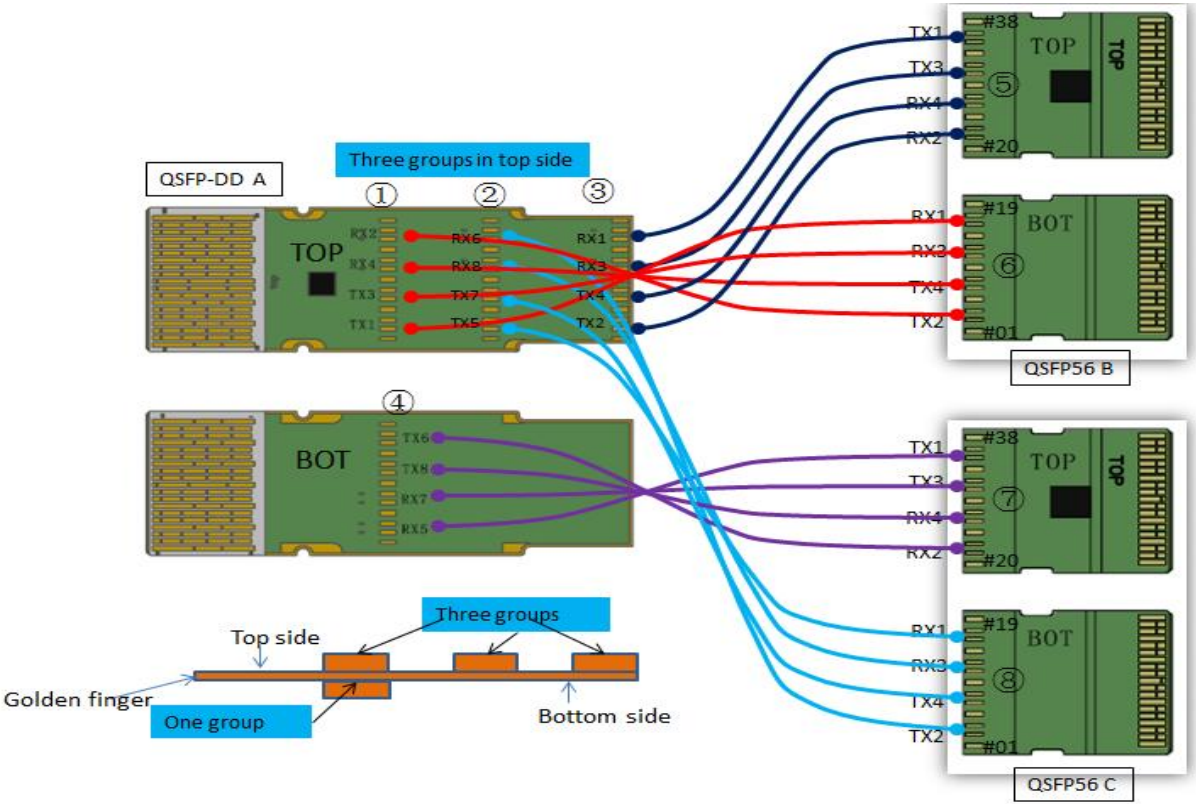

Figure 4. Wiring connection diagram
2. Vcc Rx, Vcc1 and Vcc Tx are the receiver and transmitter power supplies and shall be applied concurrently. Requirements defined for the host side of the Host Edge Card Connector are listed in Table 6. Recommended host board power supply filtering is shown in Figure 4. Vcc Rx Vcc1 and Vcc Tx may be internally connected within the QSFP+ Module module in any combination. The connector pins are each rated for a maximum current of 500 mA.